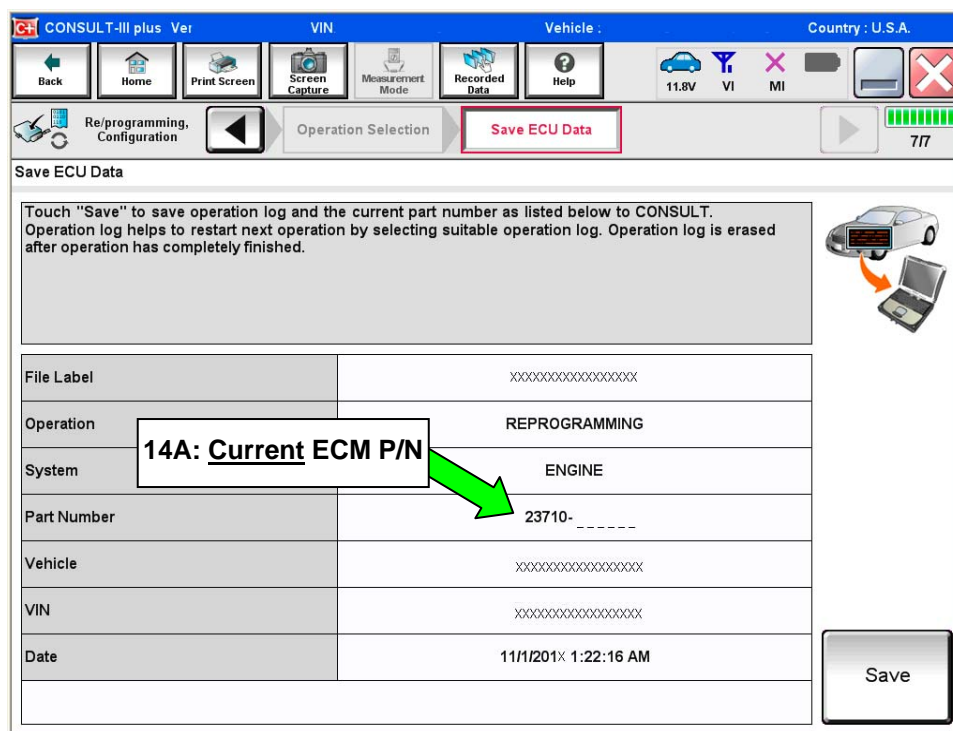

Figure 8
13. Follow the on-screen instructions and navigate the C-III plus to the screen shown in Figure 8 on the next page.
14. When you get to the screen shown in Figure 8, confirm this bulletin applies as follows.